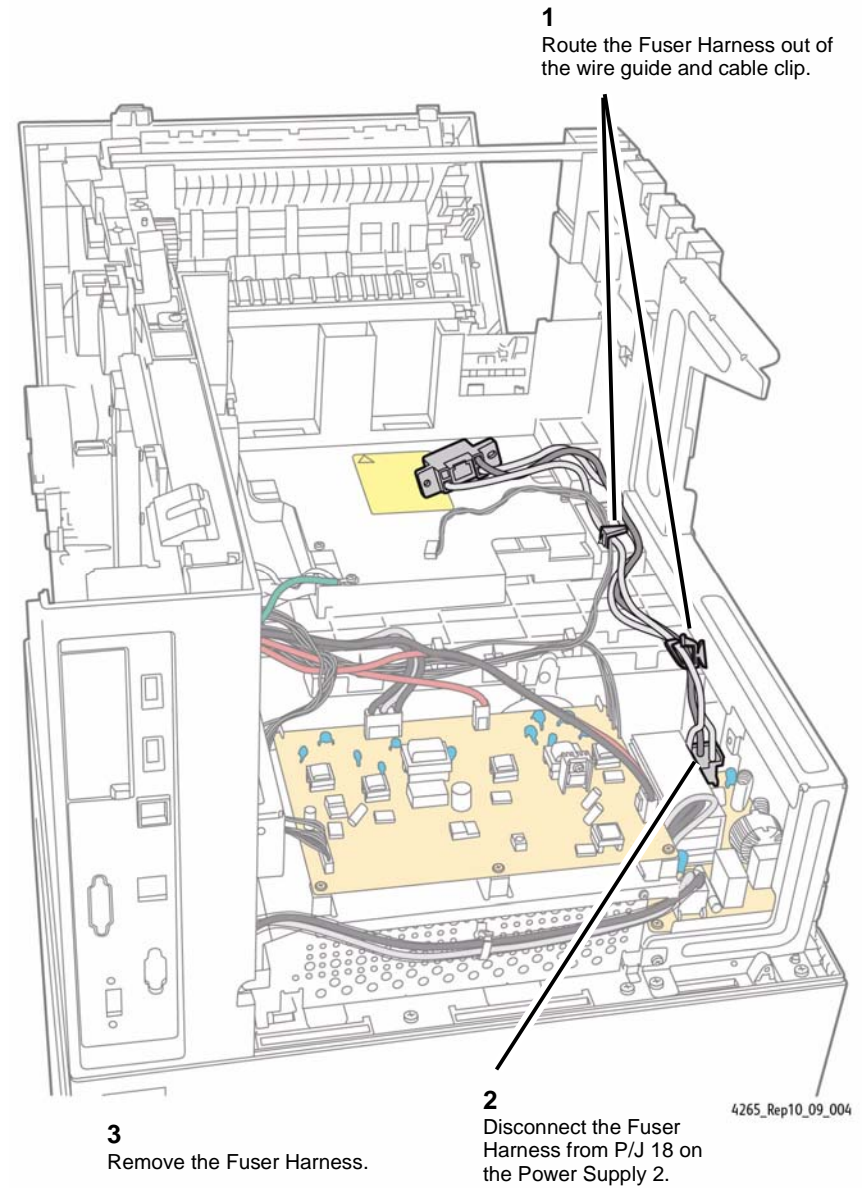

Figure 3 Removing the Fuser Harness
6. Remove the Fuser Harness (Figure 3).